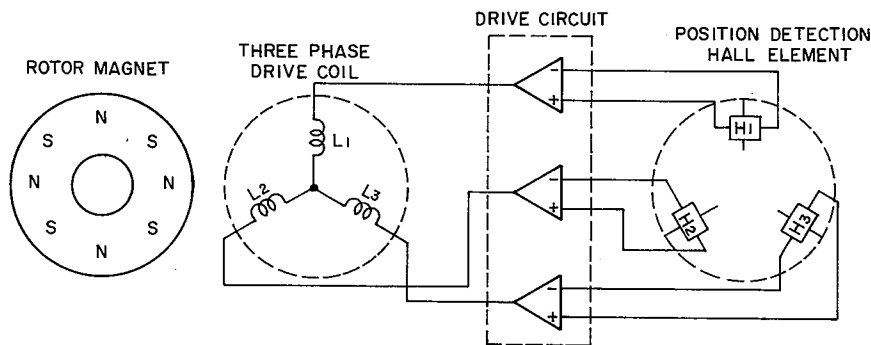

Fig. 11
- 2) Explanation of the principle of motor operation. As shown in Fig. 11, against the 8 poles of rotor magnet, 3 phase-driven-coils L1, L2 and L3, placed at electrical angle of 120° to each other, are connected to the Hall elements output terminals through their respective drive circuits.